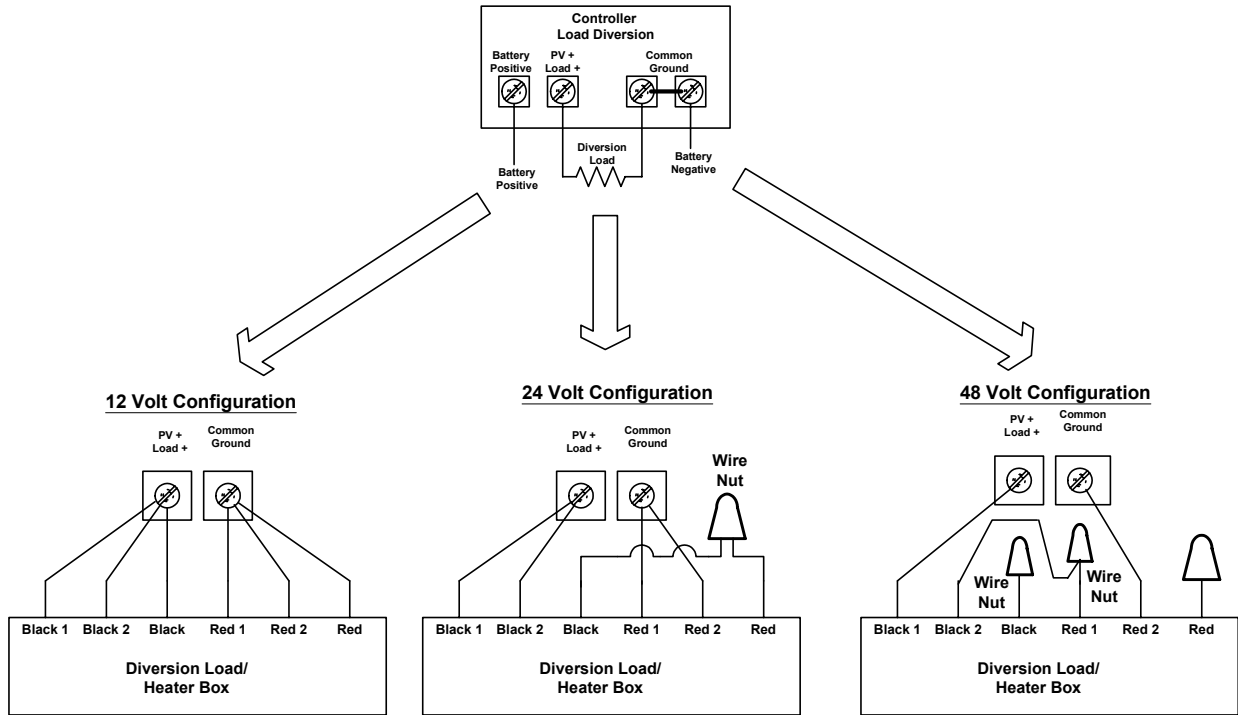

Figure 8
- 2) Connect a cable from the regulator terminals marked "PV+/Load+" to the positive terminal of the diversion load. Install a circuit breaker of minimum rating of 50 A to the positive lead to protect the regulator circuit (reference Fig 8 in Xantrax/C-40 Installation and Operating Guide, p. 19).
For exact wiring configuration according to system voltage follow Figure 8. Use minimum #8 AWG to carry the amps from regulator to diversion load, heavier for long cable.